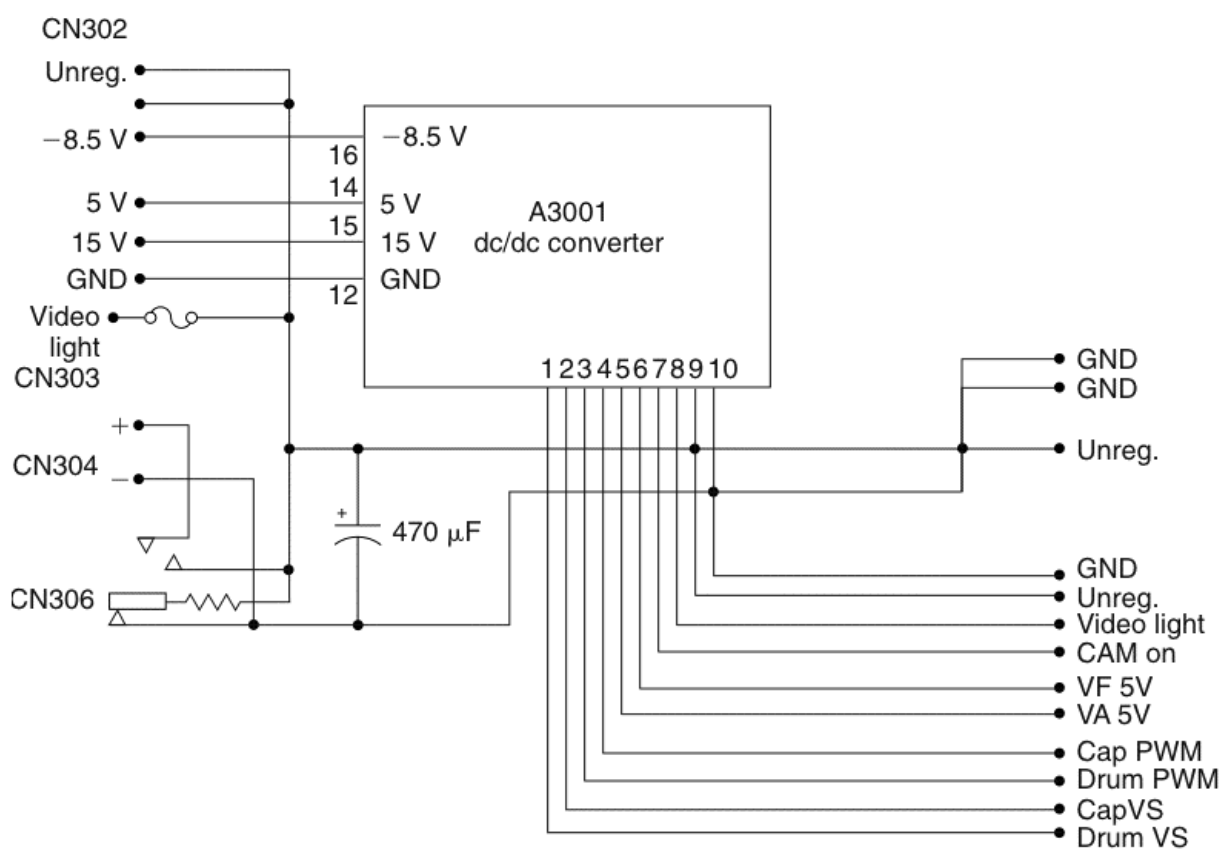

FIGURE 40-5 The 8-mm dc/dc converter input and output voltages.
Measure the input voltage of -8.5 V at the CN302 pin converter, going to terminal 16 of the dc/dc converter (A3001). Check the 5 V (S) at pin 4 and 15 V at pin 5 that apply to pins 14 and 15 of the converter, respectively (Fig. 40-5). Test the unregulated and regulated output voltage at connector CN301. Check C3003 ($220\text{ }\mu\text{F}$) and C3001 ($470\text{ }\mu\text{F}$) for possible leakage on the input voltages.